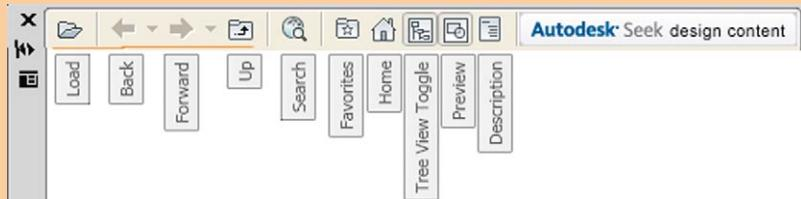

Fig. 9.11 The icons at the top of the **DesignCenter** palette
- Clicks* on one of the three icons at the top-right corner of the palette (Fig. 9.11) have the following results\*\*.